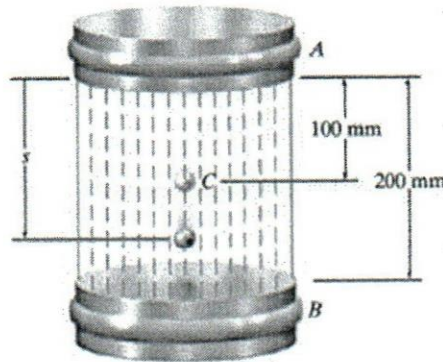

Figure 1
- a) A metallic particle is subject to the influence of a magnetic field as it travels downward through a fluid that extends from plate A to plate B in Figure 1. If the particle is released from rest at the mid point C, $s = 100\text{ mm}$ and the acceleration is $a = (4s) \text{ m/s}^2$. Determine the velocity of the particle when it reaches plate B, $s=200\text{ mm}$ and the time it takes to travel from C to B. [10 marks]